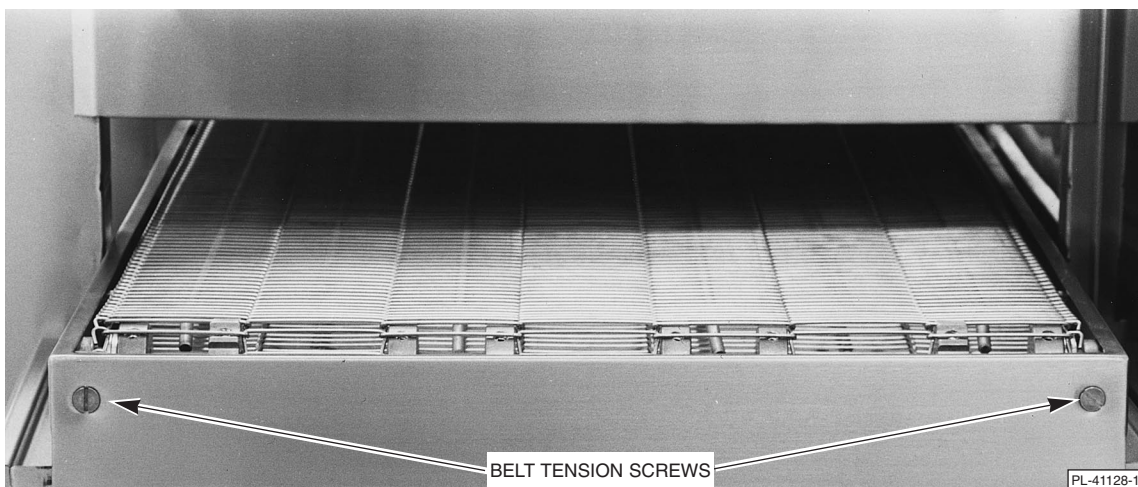

Fig. 4
1. Locate the two adjustment screws (Fig. 4) on the right hand end (facing machine) of the conveyor assembly.
- a. Loosen belt tension screws at the end of the belt track (Fig. 4).